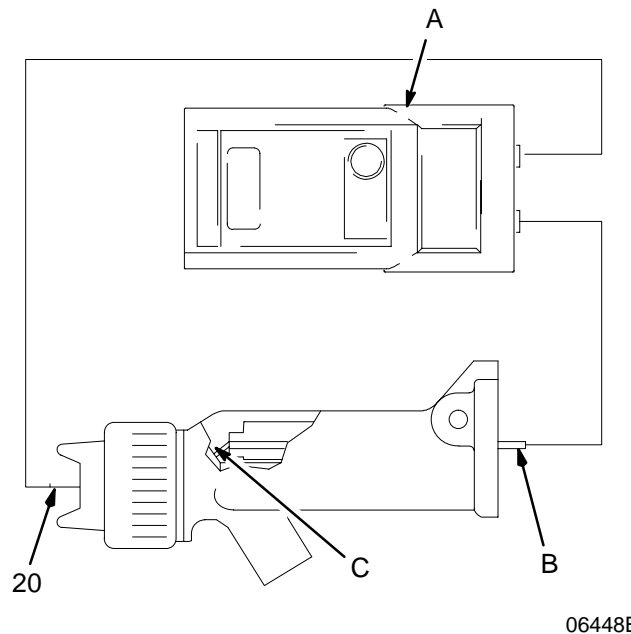

Fig. 9
Insert a conductive rod (B) into the gun barrel (removed for the power supply test) and against the metal contact (C) in the front of the barrel. See Fig. 9.